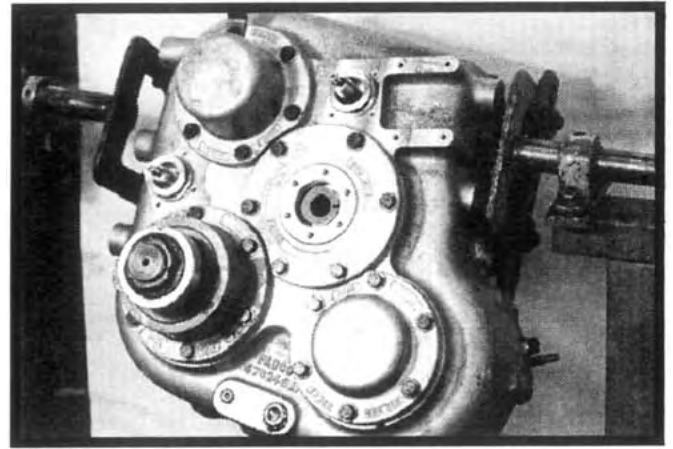

Figure 6.41
19. Temporarily install the intermediate shaft cap, the input shaft cap, and the front output shaft cap with a shim pack thickness each of .120 inch. See Figure 6.41. Install the power take-off unit in place of the input shaft cap if the unit is so equipped. See the parts manual for a list of available shims.